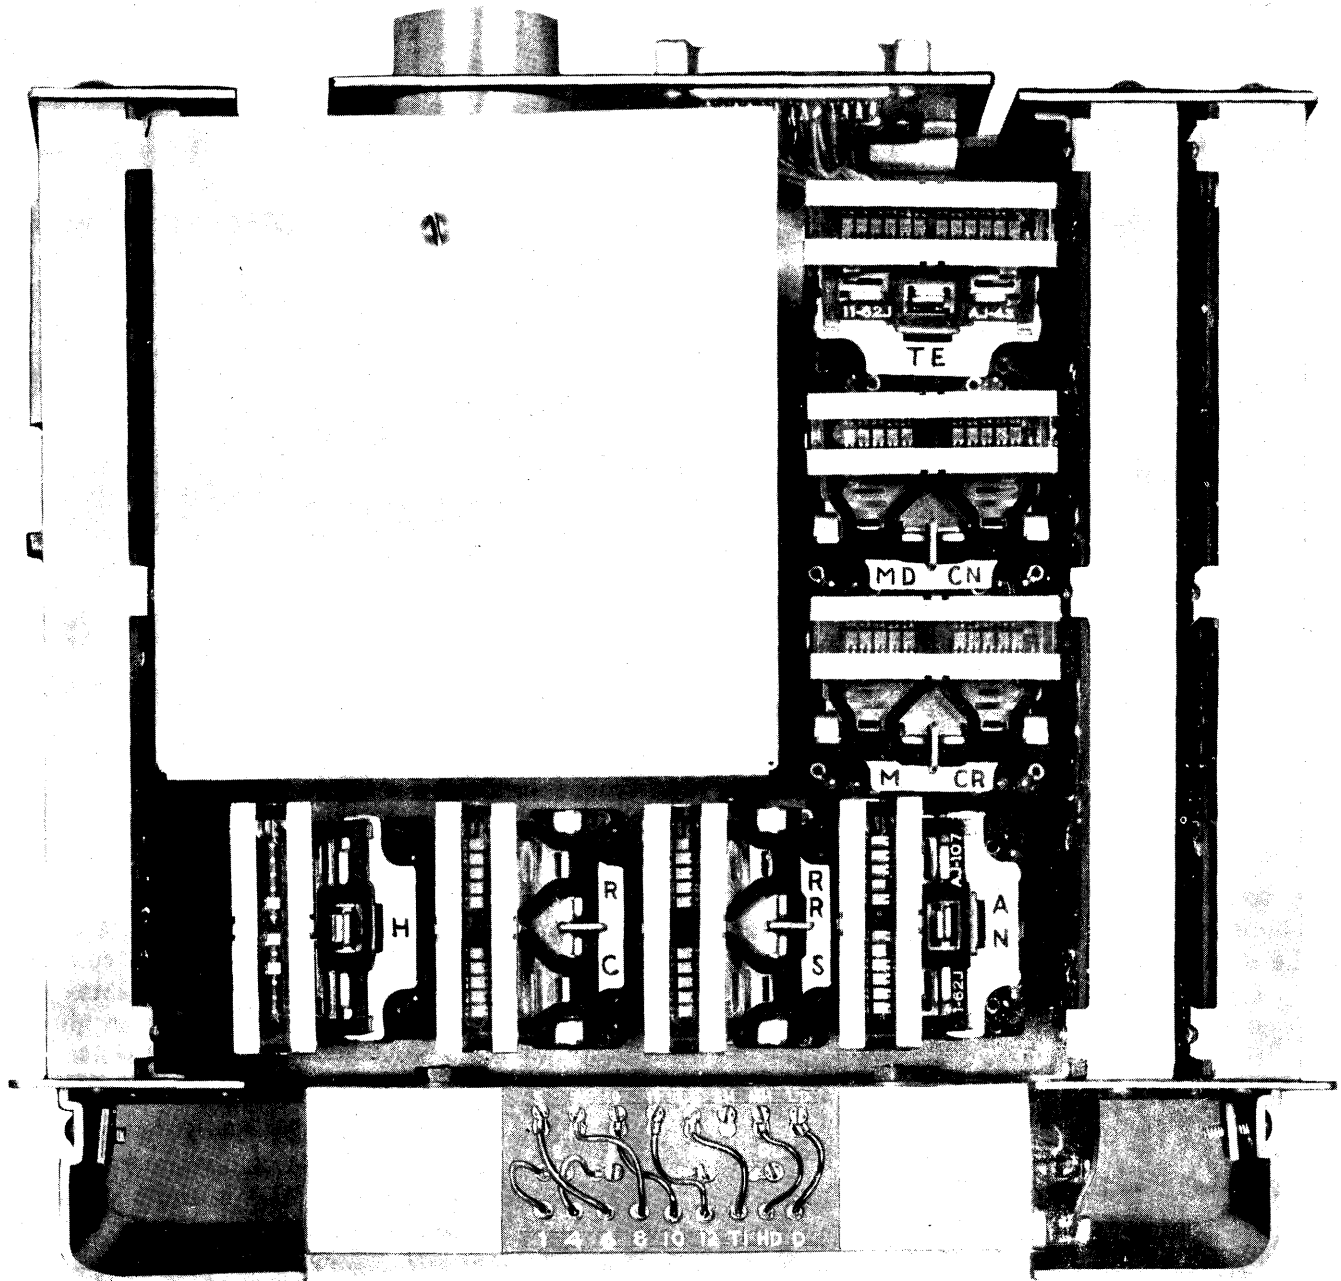

Fig. 3 — Data Set 103A Type, Top View, Cover Removed
2.01 Transmission output level options and disconnect options are provided by the strapping arrangement of TB1 (Fig. 3).
2.10 The transmit levels of both the low-frequency (originate) channel and the high-frequency (answer) channel can be individually adjusted by rearranging spade-tipped straps on terminal strip TB1 in the data set (Fig. 3). Strapping information can be found in Section